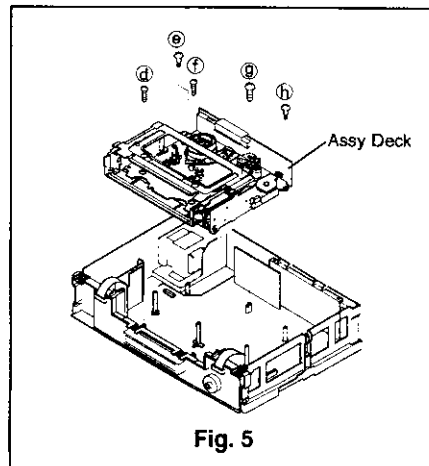

Fig. 5
- ④ Remove the five screws (d~h) holding the Assy Deck, shown in Fig. 5, and disconnect the connectors MR, ML, MM and ME.
- ⑤ Slowly raise the Assy Deck upward to remove it.